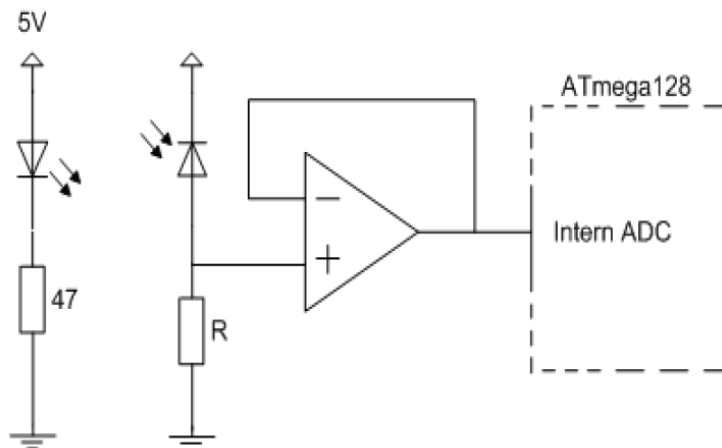

Figure 16 – example of IR assembly
5. Connect the IR diodes in a way that makes it possible to detect when the IR beam is blocked. An example is given in Figure 16, and you might also consider implementing an analog filter.